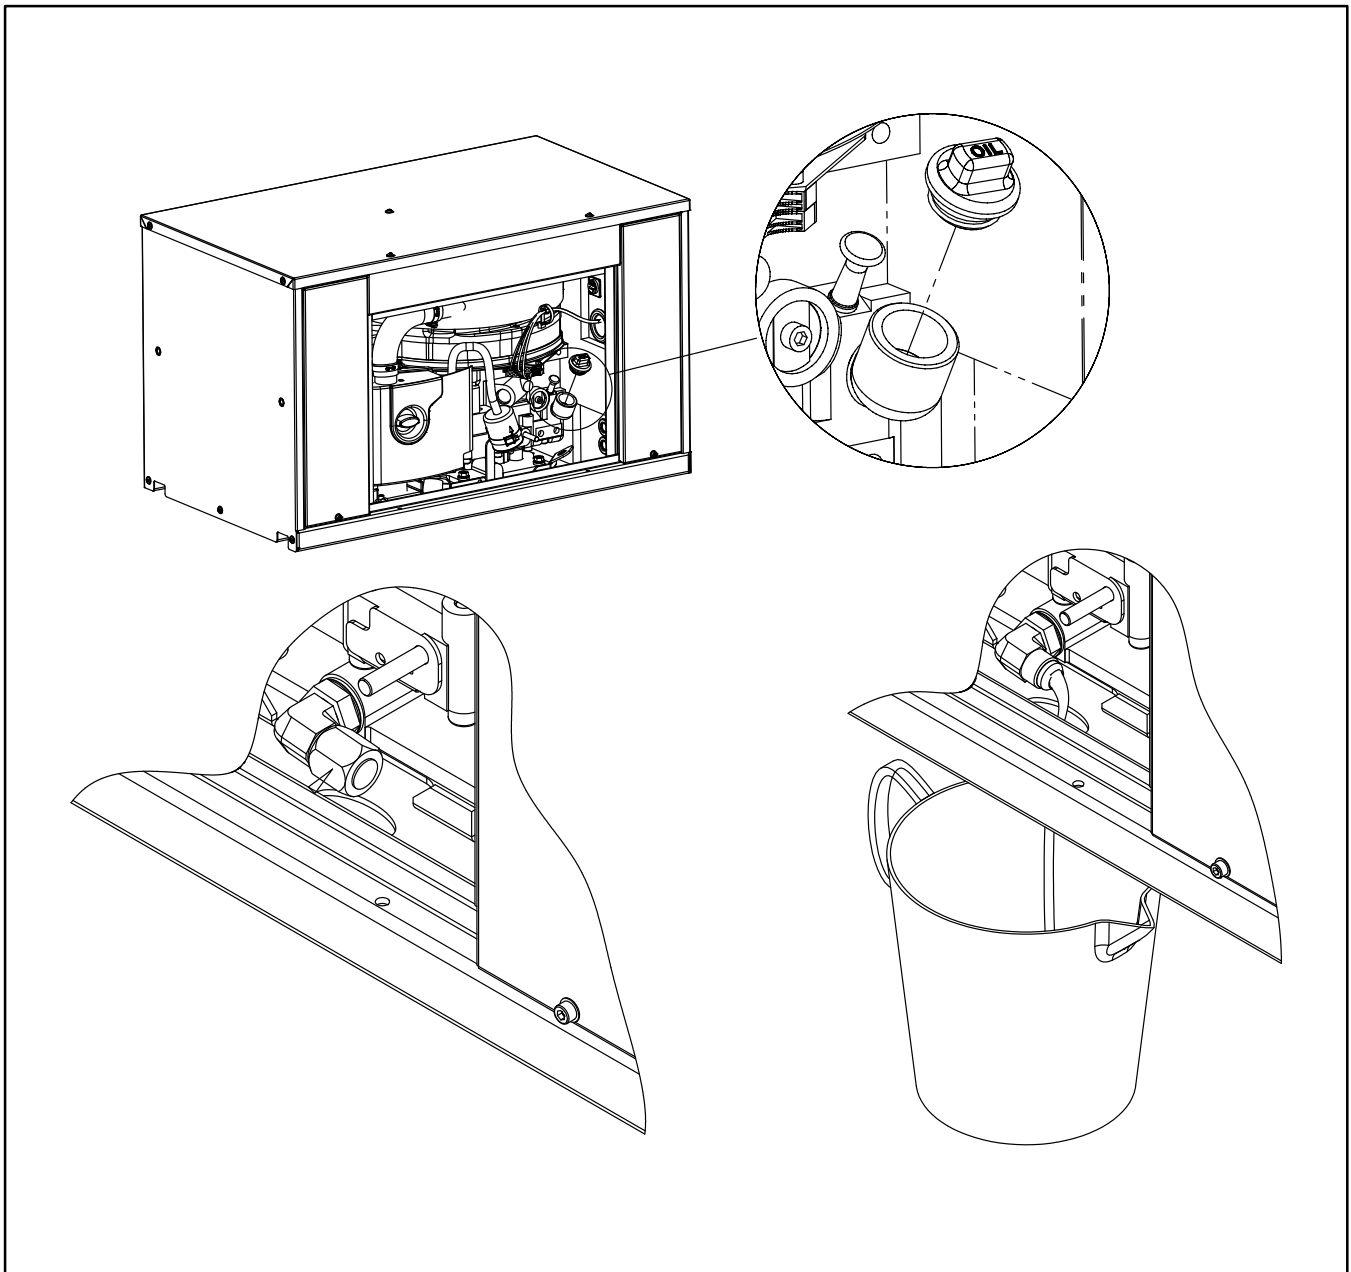

FIGURE 3-2. CHANGING ENGINE OIL
1. Place a pail under the oil drain plug (Figure 3-2).